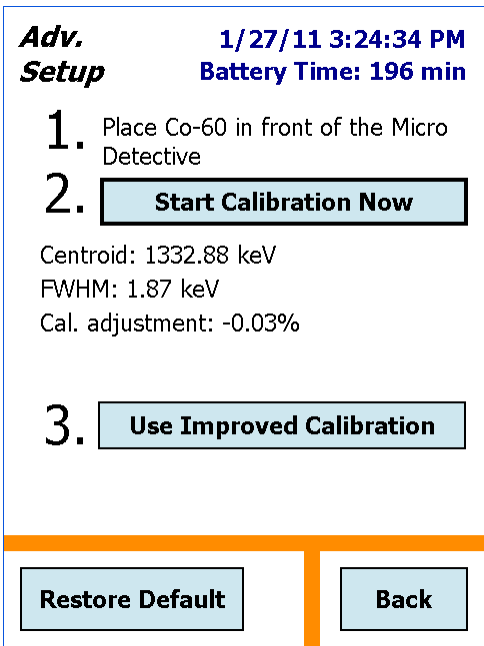

Figure 20. Apply New Calibration Selection.
- At the end of the calibration period, the **Use Improved Calibration** button will be displayed, along with the calibration and peak-shape indicators for the new measurement (Fig. 20).
The choice is yours whether to use this new calibration or not. To accept it, tap **Use Improved Calibration**. Usually, the proposed change in calibration is of the order of the one shown in Fig. 20. If it is larger than 0.3%, the cause should be investigated (see Section 7.8).